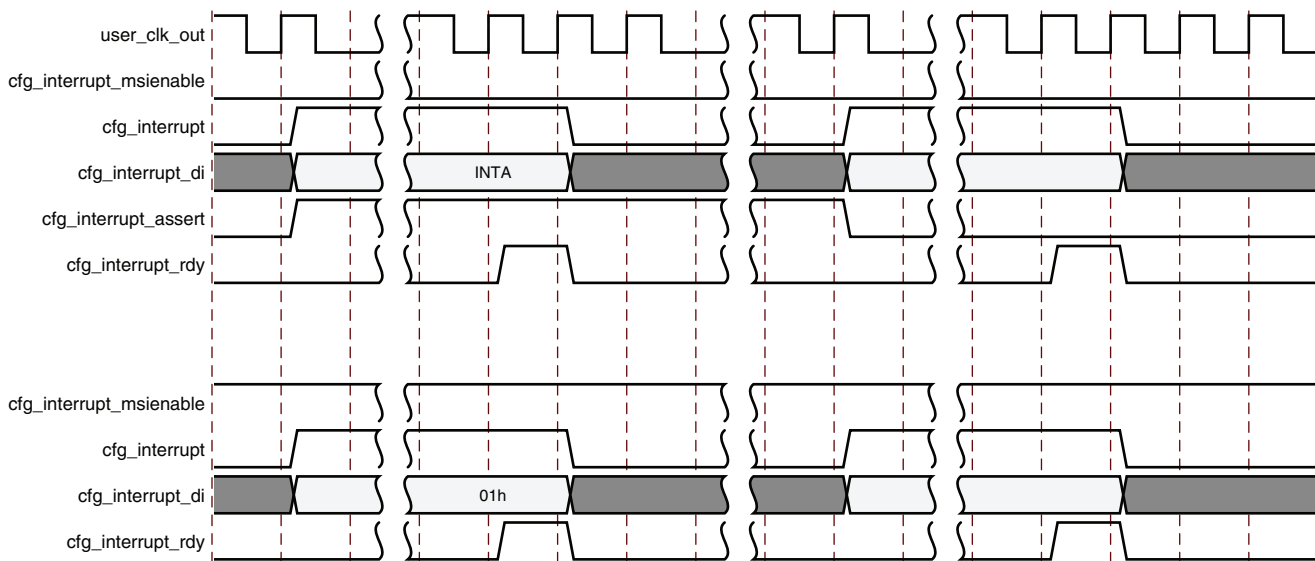

Figure 3-69: Requesting Interrupt Service: MSI and Legacy Mode
- As shown in Figure 3-69, the User Application first asserts `cfg_interrupt` and `cfg_interrupt_assert` to assert the interrupt. The User Application should select a specific interrupt (INTA) using `cfg_interrupt_di[7:0]` as shown in Table 3-44.
- As shown in Figure 3-69, the User Application first asserts `cfg_interrupt`. Additionally the User Application supplies a value on `cfg_interrupt_di[7:0]` if Multi-Vector MSI is enabled.